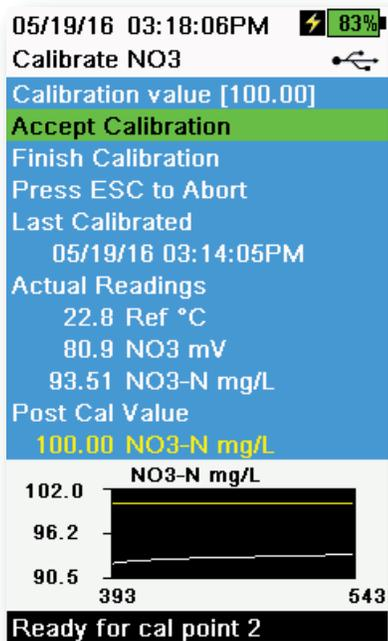

Figure 59 Calibrate ISE
5. Observe the actual measurement readings for stability (white line on graph shows no significant change for 40 seconds), then select **Accept Calibration** (Figure 59). "Ready for cal point 2" will be displayed in the message area.
10. Observe the actual measurement readings for stability (white line on graph shows no significant change for 40 seconds), then select **Accept Calibration** (Figure 59). "Ready for cal point 3" will be displayed in the message area.